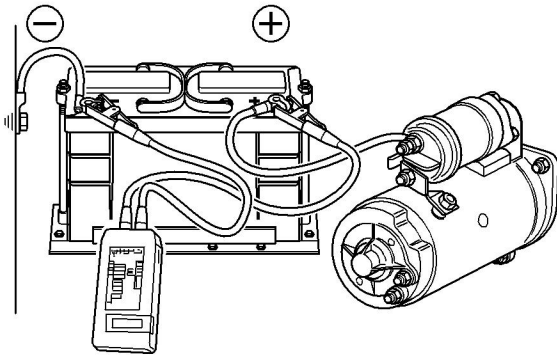

Fig 16.
- 1 Connect the voltmeter across the battery terminals. ⇒ **Fig 16.** (□ 6-26). Reading in 'start' position: 10.0V approximately. Minimum permissible reading in 'start' position 9.5V.